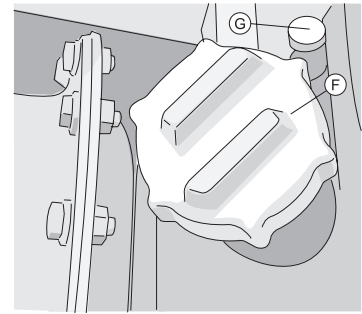

Figure 2-53
As shown in Figure 2-53, use dipstick (G) to check the oil level. If needed, oil should be added through the filter screen (F). The lubricant type used depends on the ambient temperature. See the "USE OF FUEL, COOLANT AND LUBRICANTS ACCORDING TO AMBIENT TEMPERATURE" for reference.